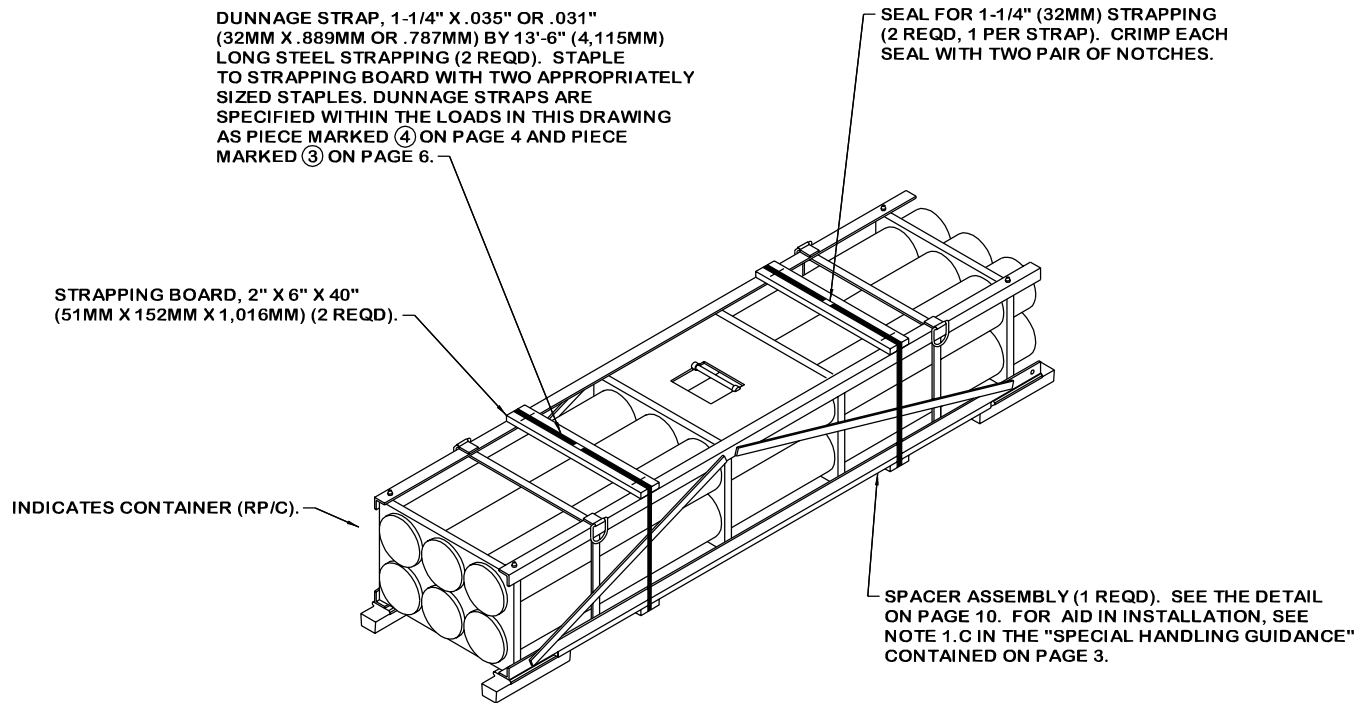

FIGURE 1
- A. EVERY CONTAINER TO BE SHIPPED IN THE TOP LAYER MUST FIRST BE PREPARED BY STRAPPING TWO STRAPPING BOARDS AND A SPACER ASSEMBLY TO IT AS DEPICTED IN FIGURE 1 ON PAGE 9.